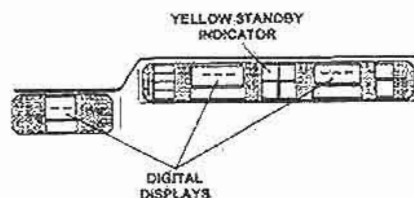

Figure 2-16. Standby mode.
d. Continue to observe the control panel. The following control panel actions will automatically occur (fig 2-16).
- (1) The three digital displays show "- - -."
- (2) The yellow "STDBY" indicator illuminates.